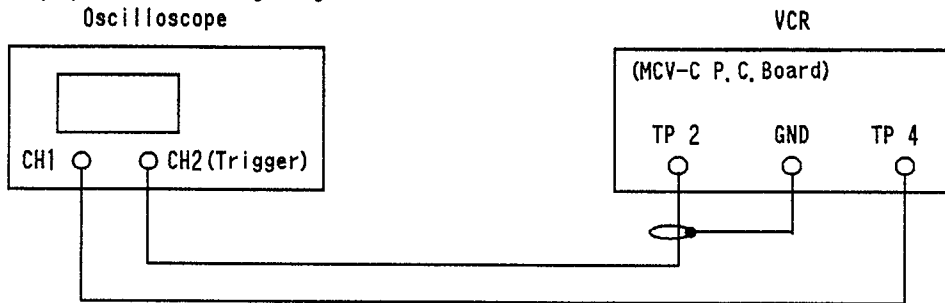

Fig. 5-8
1. Connect the equipment as shown in Fig. 5-8.